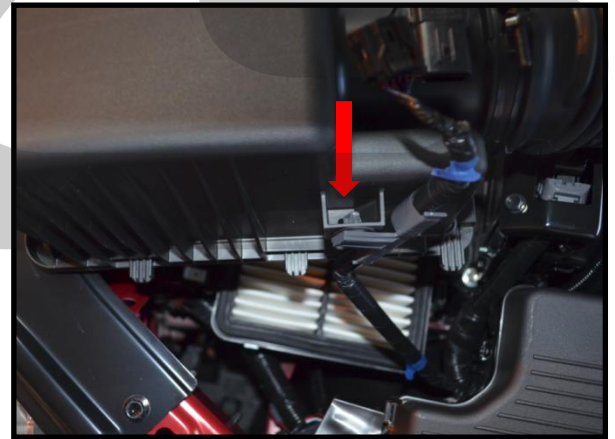

Figure 3f
- e) Disconnect the MAF wiring and pull up on air box lid and remove it from the car (Figure 3f). You will need needle nose pliers to compress the sides of the wiring harness tie down.